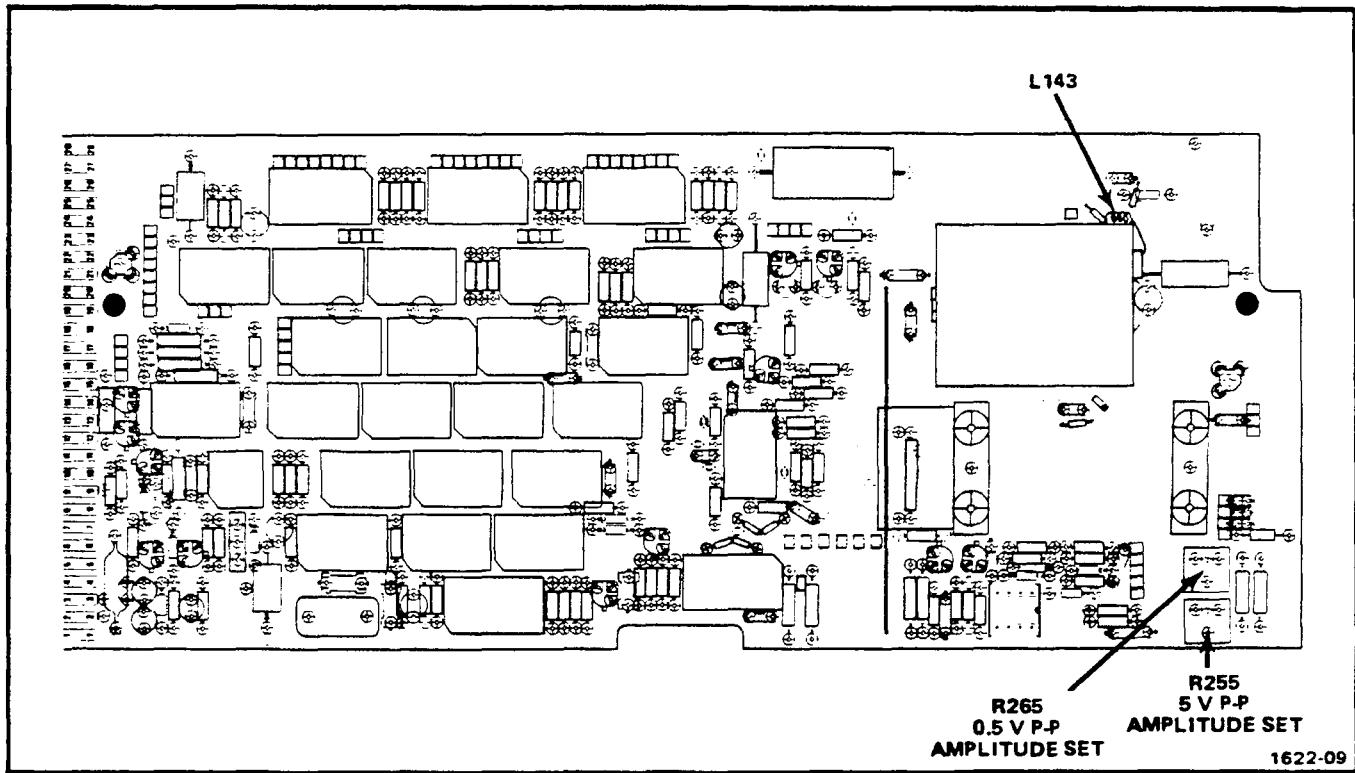

Fig. 3-2. Location of L143, 0.5 V P-P, and 5 V P-P Amplitude Set.
- f. Adjust—5.0 P-P Amplitude Set, R255, so the corners of the idealized waveform are aligned as illustrated in Fig. 3-3. See Fig. 3-2 for adjustment location.
- j. Adjust—0.5 V P-P Amplitude Set, R265, so the corners of the idealized waveform are aligned as illustrated in Fig. 3-3. See Fig. 3-2 for adjustment location.
- e. Adjust—L143, (physically moving coil), to meet the suppression requirement as given in part d of this step. See Fig. 3-2 for adjustment location.